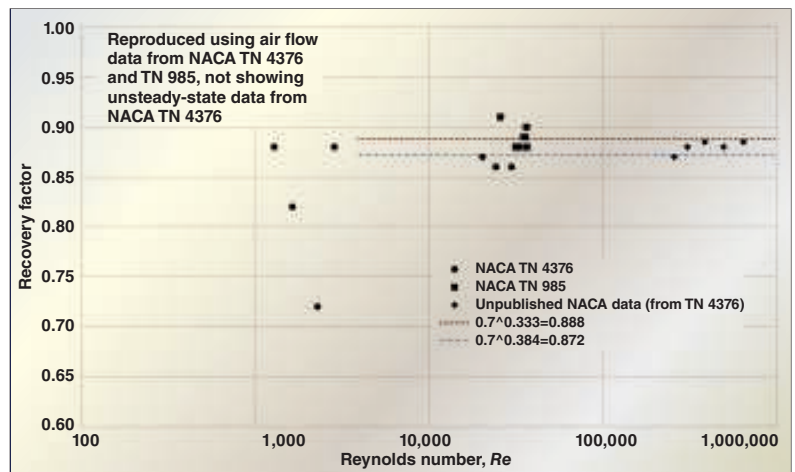

FIGURE 3. The variation of recovery factor (r) at the tube exit with Reynolds number is shown [8]
The experimental and theoretical work outlined by Eckert [3, 4] is based on high-velocity gas flow relative to flat plates; nonetheless, additional work for the now-defunct National Advisory Committee for Aeronautics (NACA) [7,8] experimentally determined the recovered wall temperatures in adiabatic and diabatic airflow in pipes at a range of Reynolds and Mach numbers. Figure 3 is adapted from NACA Technical Note (TN) 4376 [8] and shows how the recovery factors vary with changing Reynolds number values.